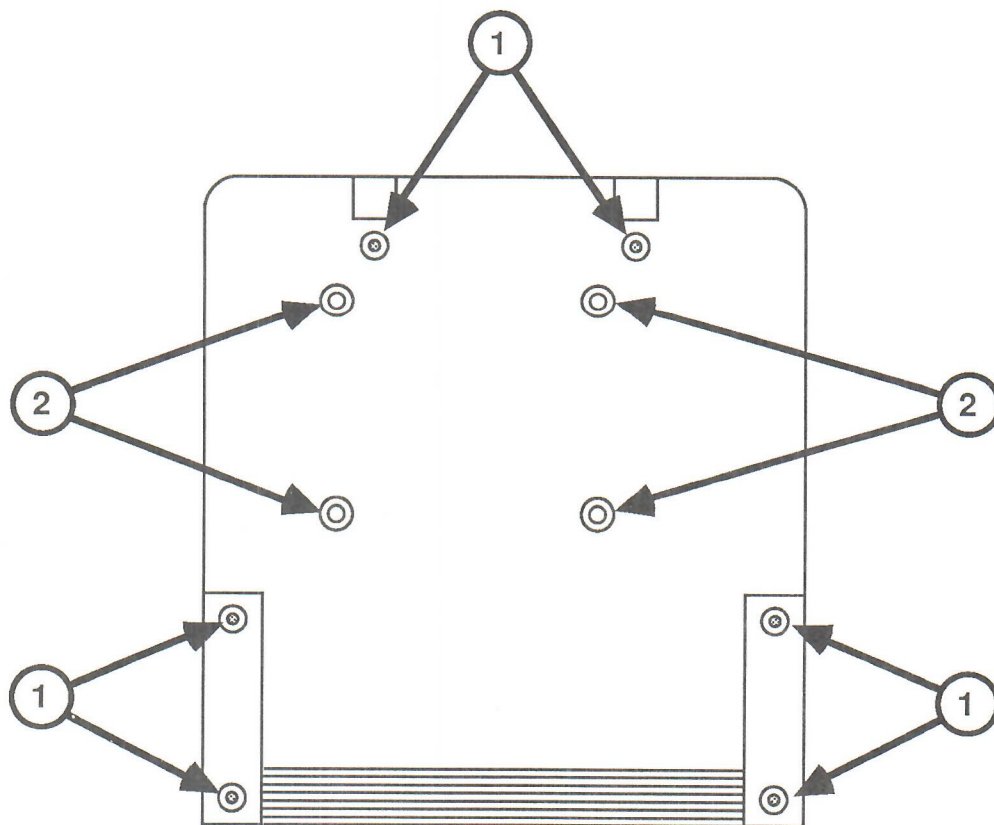

FIGURE 1
4. Remove the six case screws (Figure 1, #1).
5. If you are replacing the disk drive, logic board, volume control, or power switch, also remove the disk drive mounting screws (Figure 1, #2).